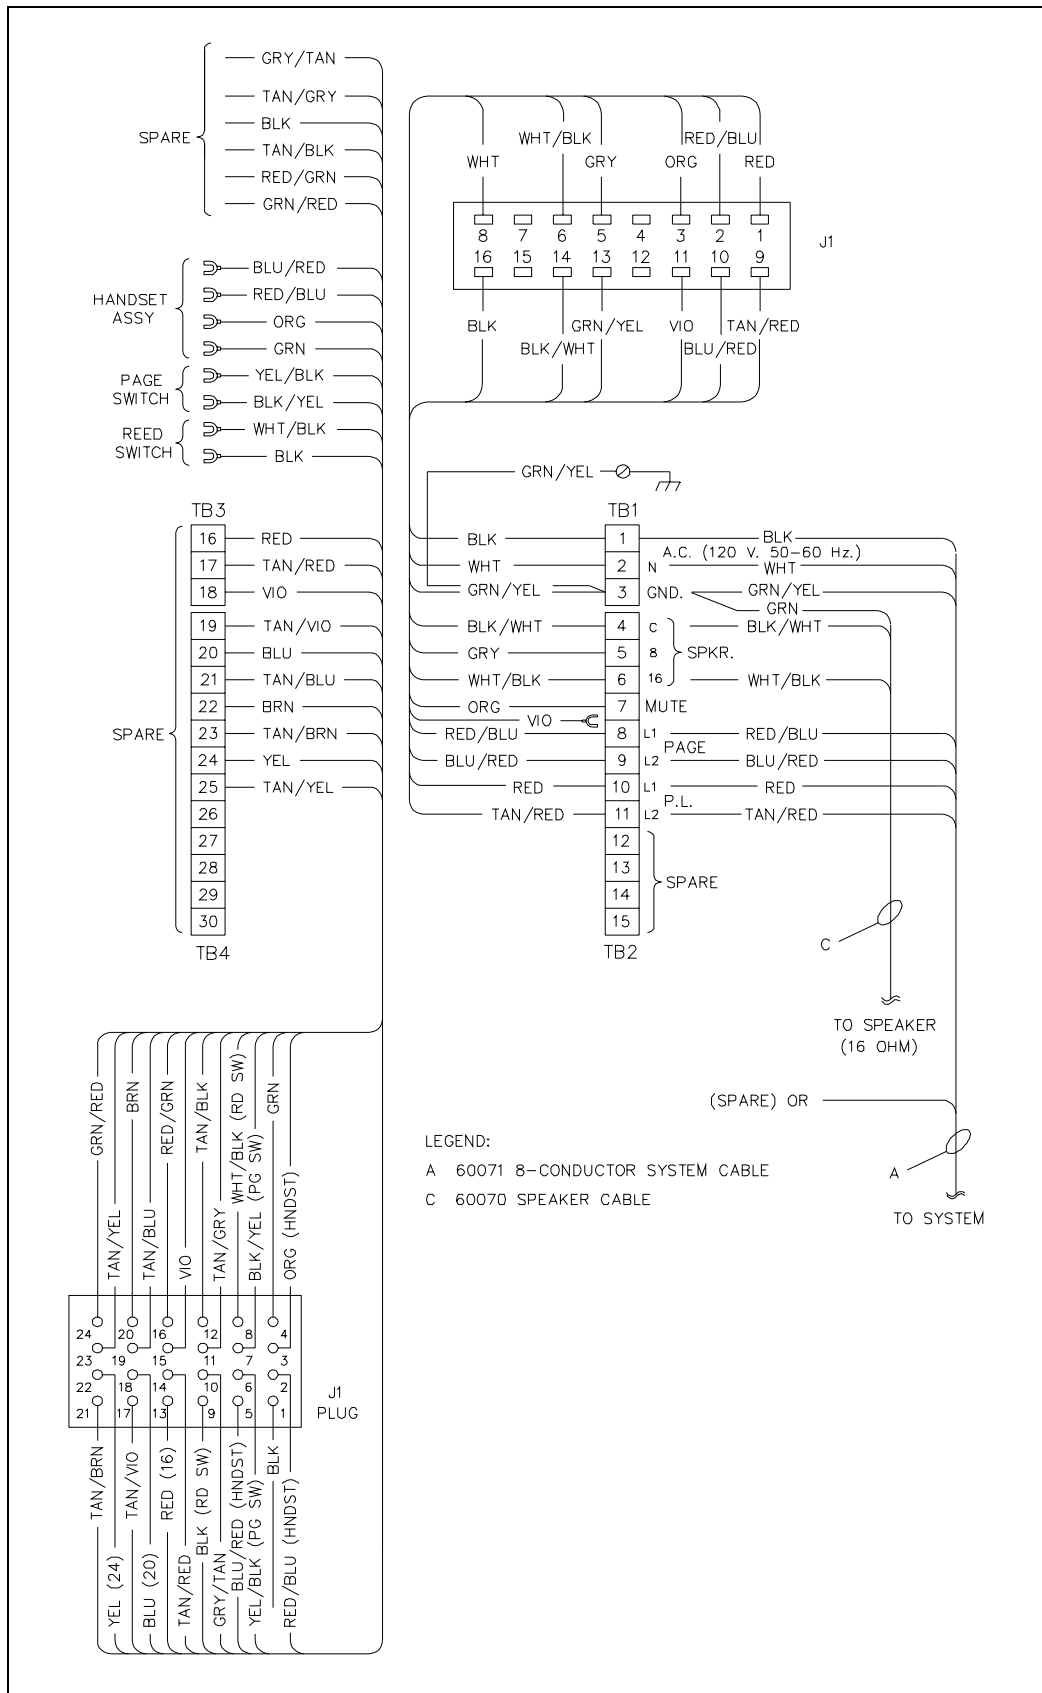
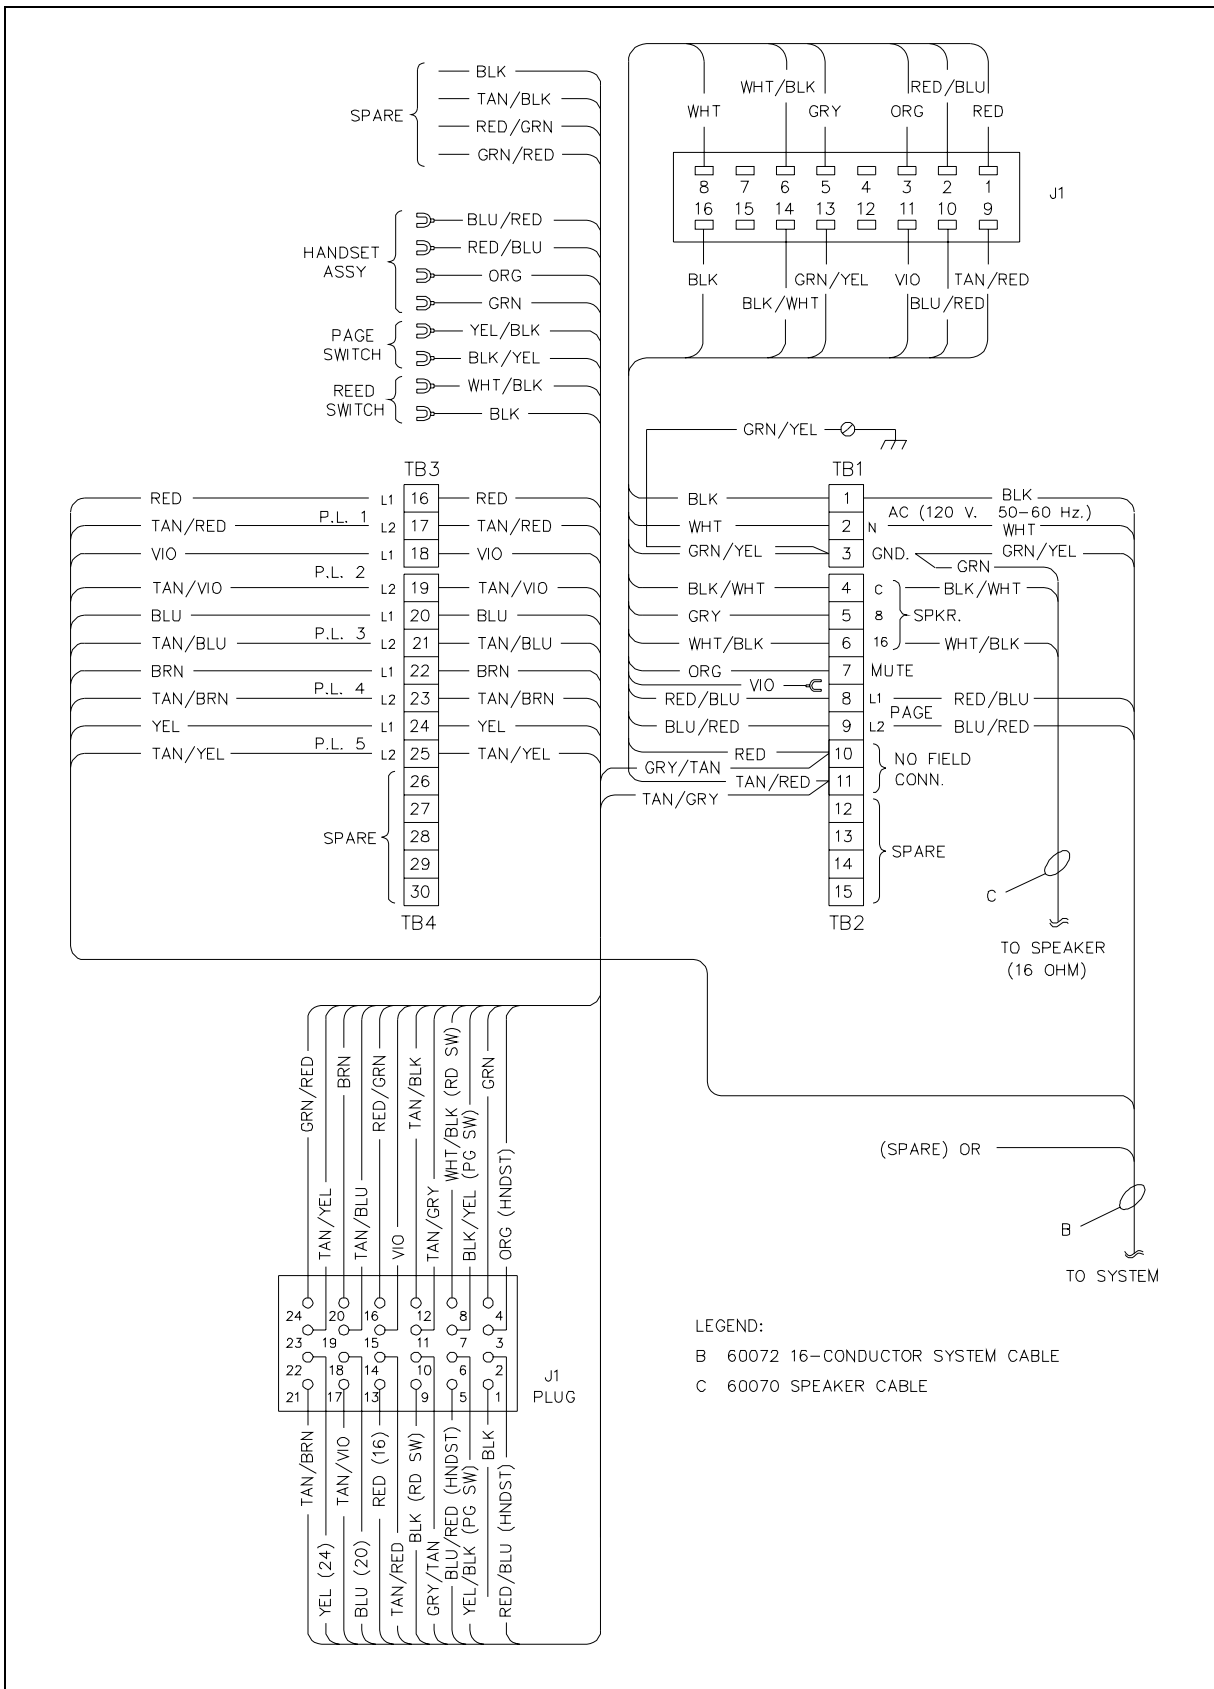

Figure 6. Single Party Wiring Detail
Figure 7. Multi-Party Wiring Detail
7. Connect cable cores to terminals following the wire colors as illustrated in Figure 6 for single party and Figure 7 for multi-party systems. The wire colors correspond to GAI-Tronics 60071 and 60072 Series System Cable and 60070 Speaker Cable. Connect the wires carefully and completely to the terminal block. An improper termination may result in diminished station performance.